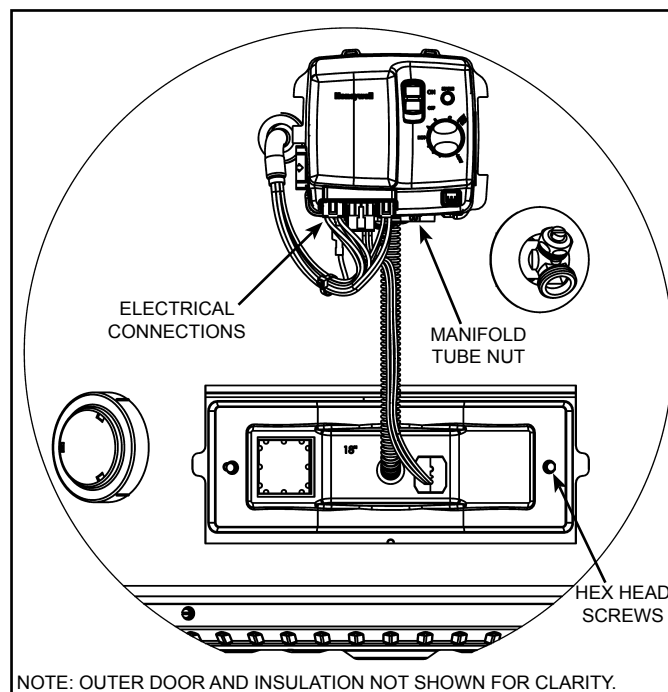

Figure 7
5. Unplug all the electrical connections from the bottom of the gas control valve/thermostat (see Figure 7).
6. Using a 3/4" open end wrench remove the manifold tube from the gas control valve/thermostat (turning counter-clockwise for natural gas, clockwise for L.P.). Grasp the manifold tube and push down slightly to free the manifold tube from the gas control valve/thermostat (see Figure 7).
8. Use a 1/4" nutdriver or 1/4" socket & ratchet to loosen the 2 hex head screws on the inner door so the inner door/manifold/burner assembly can be removed (see Figure 7).
2. After confirming no materials of any type are between door gasket and combustion chamber shield, align the screws on the inner door with the screw holes on the combustion chamber and tighten with 1/4" nutdriver or 1/4" socket & ratchet (see Figure 7). After tightening the inner door screws, visually inspect area around door gasket and skirt for spaces or gaps. The door gasket **MUST** be sealed completely in order for the water heater to perform properly. **DO NOT OPERATE THE WATER HEATER IF THE DOOR GASKET DOES NOT CREATE A SEAL BETWEEN MANIFOLD DOOR AND COMBUSTION CHAMBER.**
3. Reconnect the manifold tube to the gas control valve/thermostat (**Note:** Do Not apply any thread sealant at this connection). To prevent any cross threading the manifold tube should be started by hand (turn clockwise for natural gas, counter-clockwise for L.P.). Upon tightening with the fingers and confirming it has not been cross threaded, tighten nut with a 3/4" open end wrench (see Figure 7).
5. Reconnect all the electrical connections to the bottom of the gas control valve/thermostat, gently pushing each connector up until it snaps into place (see Figures 7 & 10).